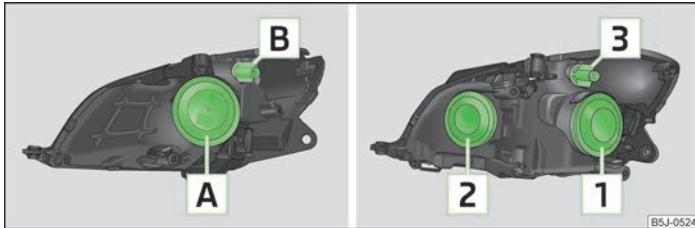

Fig. 143 Bulb arrangement: Halogen headlights/halogen projector headlights
- Remove the rubber cover **A** » Fig. 143 on page 170.
- Remove the rubber cover  » Fig. 143 on page 170.
- Remove the socket  » Fig. 143 on page 170 or the socket  up to the stop in an **anti-clockwise** direction and remove along with the bulb for the turn signal light.
- Remove the rubber cover  » Fig. 143 on page 170 and , .